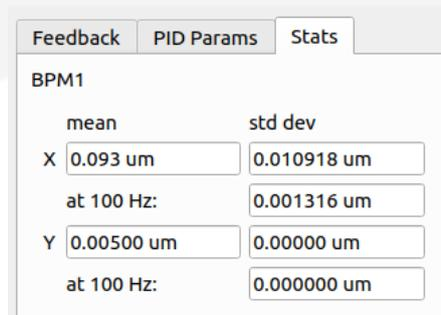

Figure 11: Feedback statistics section.
- The *statistics* section tab (**Figure 11**), where the real-time mean value of the encoder readout (X-Y) and its related standard deviation are visualized;